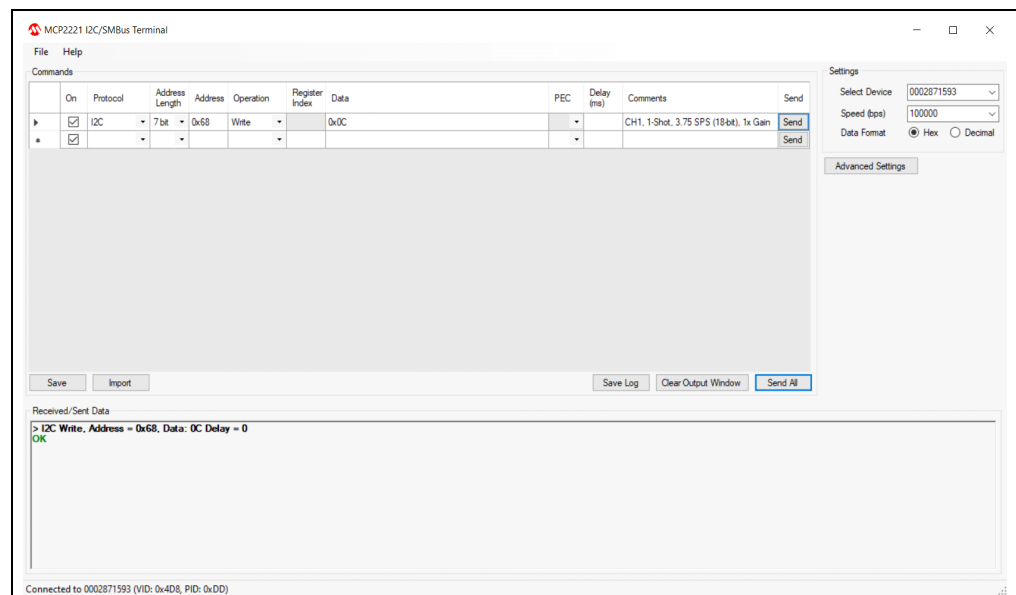

FIGURE 3-2: MCP2221A Breakout Module I²C Write Command.
- The “Received/Sent Data” dialog will also display an *OK* acknowledgment indicating the command was properly executed, or an *Address NACK received* non-acknowledgment indicating an error has occurred when sending the command (see Figure 3-2).